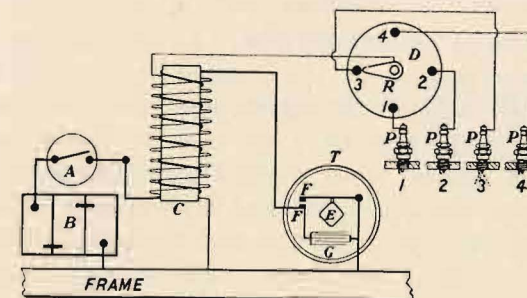
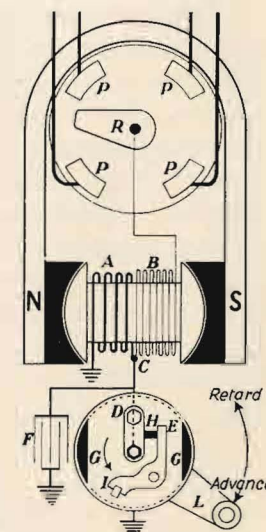

Fig. 11.—Battery ignition circuit diagram.
Fig. 12.—A magneto for a four cylinder engine.
**15. Battery ignition circuit.** Most automobiles now use battery ignition which may be studied by referring to Fig. 11. One terminal of the six-volt storage battery B is “grounded” to the frame of the car while the other
**17. Magneto ignition.** Some automobiles and most air craft use magnetos for ignition. Here again induced currents are set up by altering very rapidly the number of magnetic lines of force passing through a coil. One type of magneto is shown in Fig. 12. A primary coil A and a secondary B are wound on a soft-iron core which is made to rotate rapidly between the poles N and S of a permanent magnet. This rotating assembly is the *armature*. Connections are made to the rotating coils through sliding contacts called brushes but for simplicity these are not shown in the diagram. One end of the primary
**18. Ignition timing.** A short interval of time occurs between the occurrence of the spark and the combustion of the mixture. Hence the spark must be timed to occur before the piston reaches the end of the compression stroke. This is called *advancing* the spark and the magneto in Fig. 12 is equipped with a lever for advancing the spark to the proper position to secure the maximum power from the engine.
**19. Ignition switch.** In battery ignition (Fig 11) opening the switch A stops the engine by cutting off the primary current which magnetizes the core. In magneto ignition, however, permanent magnets are used and the engine is stopped by short-circuiting the primary coil by a switch which could be inserted in Fig. 12 between D and "ground". When this switch is *closed* the opening of the breaker points produces no change in the magnetic flux through the secondary coil and consequently the voltage in the secondary does not rise high enough to produce a spark. This is the "off" position of an aeroplane magneto ignition switch.